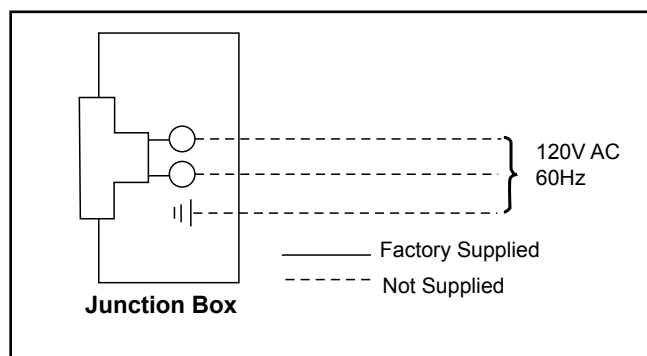

Figure 1 - Junction Box Wiring Diagram
2. Remove the two (2) screws for the junction box cover, loosen romex connector and slide up wire. Connect wires to junction box wires securely. Slide junction box cover down to unit and reattach to firebox and tighten romex connector to wire. Junction box was installed at the factory. See Figure 1.